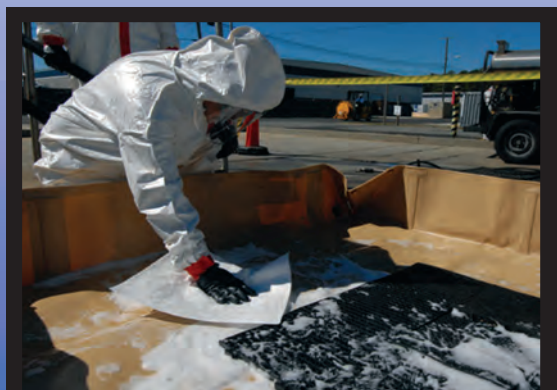

Figure 1: It is important to incorporate a non-skid mat in the bottom of containment pools used in a decon station to reduce slip hazards
- Size station depending on expected exposure (i.e. is there a need for “hot, warm, and cold” zones? (see figure 1)